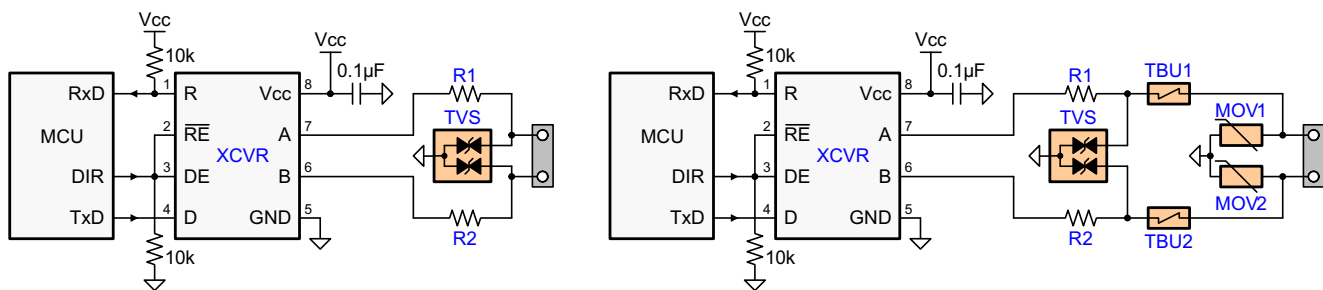

Figure 26. Transient Protections against ESD, EFT, and Surge Transients
To protect bus nodes against high-energy transients, the implementation of external transient protection devices is necessary. Figure 26 suggests two circuits that provide protection against light and heavy surge transients, in addition to ESD and EFT transients. Table 4 presents the associated bill of materials.
While the transient protection is similar to the one in Figure 26 (left circuit), an additional high-voltage capacitor is used to divert transient energy from the floating RS-485 common further towards Protective Earth (PE) ground. This is necessary as noise transients on the bus are usually referred to Earth potential.